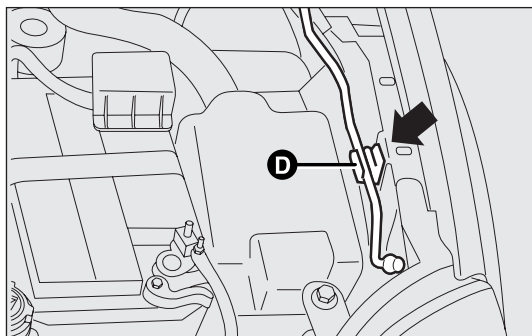
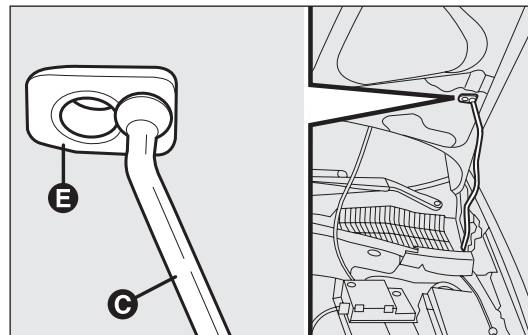

fig. 85
fig. 86
- lift the bonnet and, at the same time, release the bonnet support rod from its locking device D-fig. 85; then insert the end of the bonnet support rod C-fig. 86 into the hole E.
- hold the bonnet up with one hand and with the other remove the rod C-fig. 86 from the hole E and fit it back into its catch D-fig. 85;